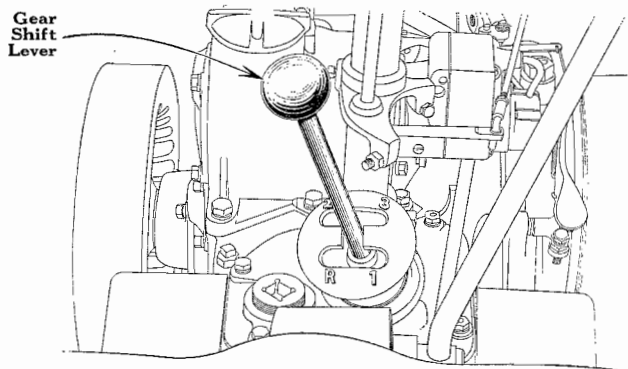

Fig. 4.
1. Pull radiator curtain down. Set gear shift lever in neutral (Fig. 4) and pull clutch lever back.